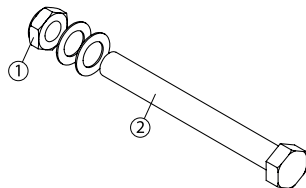

Fig. 7
- To remove the rear wheels: unscrew the bolt (1) (Fig. 7) located inside the wheelchair axle bushing and pull out the wheel.
- To reinstall the rear wheels on the wheelchair: insert the threaded axles (2) in the axle bushing.
- Tighten the bolt (1) and make sure that the wheel is still turning without any restrictions.